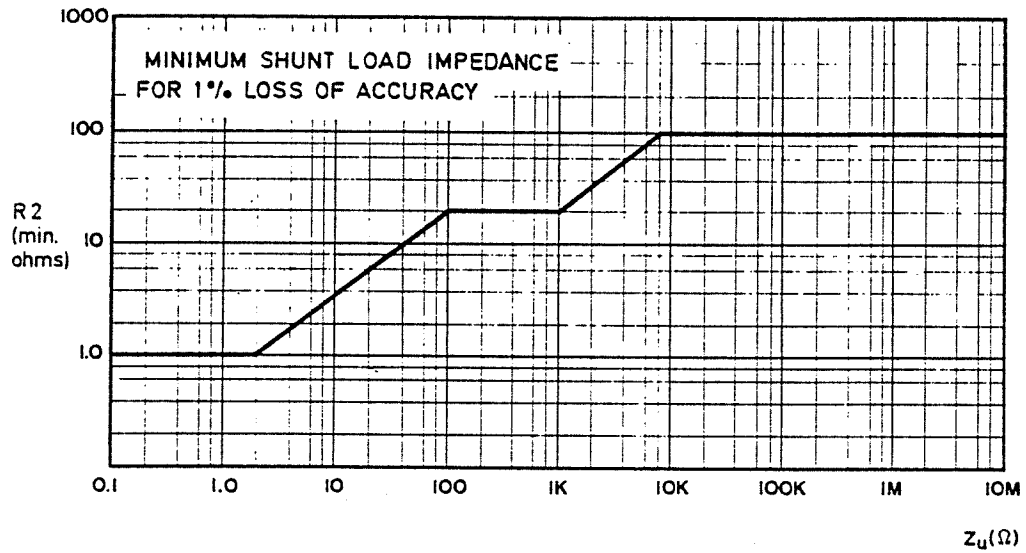

Fig. 5 Permissible Shunt Loading
and, from this value of Zu, using the graph (Fig. 5) to read R2.
- b)  $Z_2$  not less than the value (for  $R_2$ ) obtained by reference to Fig.5 ,